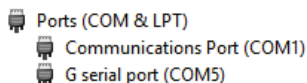

Figure 1–11: G serial port
**GENESYS™** power supply default communication interface is set to USB. To communicate with the supply, it is recommended to install USB driver before USB cable connection (USB drivers are available on TDK-Lambda Website). To install USB driver, download it from TDK-Lambda Website, decompress zipped file (if compressed), navigate to x86 folder for 32-bit operating system or x64 folder for 64-bit operating system, launch dpinst.exe file. Follow on-screen instructions to accomplish the installation process (refer to Applications Guide, IA761-04-03\_ for step-by-step installation procedure). Following driver installation, connect power supply to PC using USB cable. Power supply COM port is detected in Device Manager, under Ports (COM & LPT) category as G serial port (COMX), where X stands for COM address number (refer to Figure 1–11 as an example for G serial port installed over COM5).
Port: According to Device Manager (refer to Figure 1–11 for an example of COM5).
Port: USB, According to Device Manager (refer to Figure 1–11 for an example of COM5).